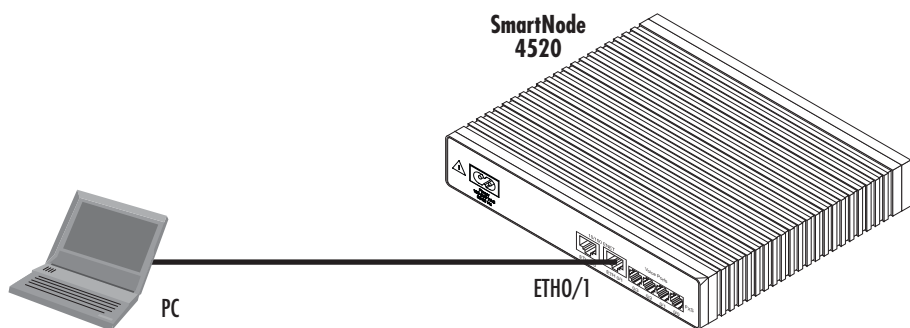

Figure 2. Connecting the SmartNode directly to your PC
LAN interface *ETHO/1* is configured as DHCP server (see **figure 2**).
6. Using the included black Ethernet cable, connect the SmartNode RJ-45 Ethernet LAN port labeled *ETH0/1* directly to the Ethernet port on your PC (see figure 2 on page 3).